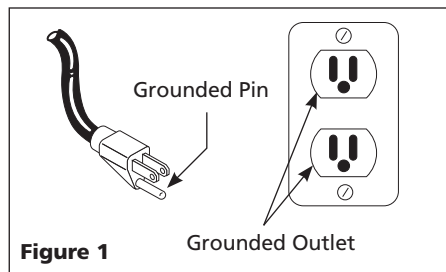

Figure 1
19. To reduce the risk of electrical shock, the pump should be plugged directly into a properly installed and grounded 3-prong grounding type receptacle, as shown in Figure 1. The green (or green and yellow) conductor in the cord is the grounding wire. The motor must be securely and adequately grounded for protection against shock.